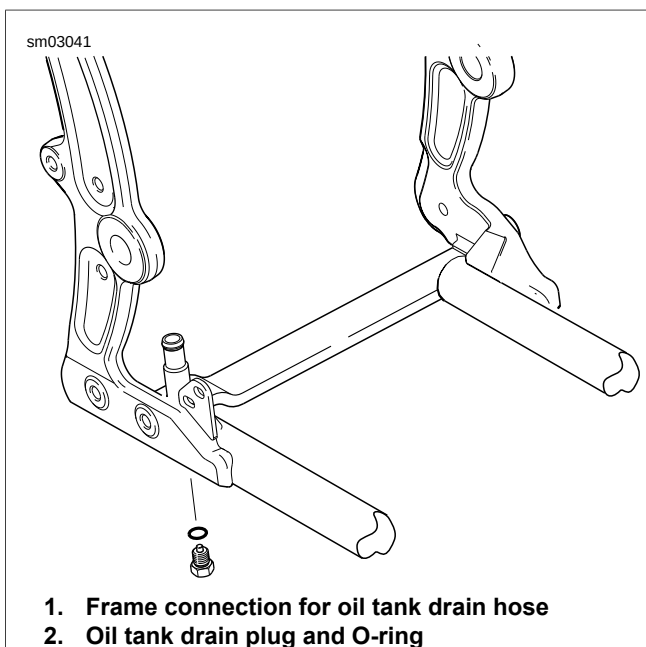

Figure 1-3. Oil Tank Drain Plug
3. See Figure 1-3. Remove the engine oil drain plug with O-ring (2). Allow oil to drain into a suitable container.
6. See Figure 1-3. Install oil tank drain plug (2).